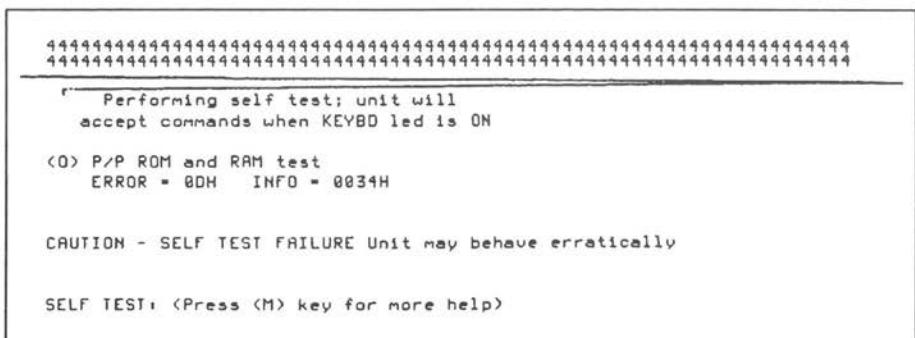

Figure 7-5. Example of Test O Failure at Power-On
- (O) **P/P ROM and RAM Test**—This test checks the internal ROM of the print/plot processor using a CRC test similar to test 1. Both the print/plot internal RAM and external RAM are tested similar to test 2, the quick RAM test. Data is written into the RAM and then read back from the RAM for verification. Any errors would result in a test failure and an appropriate error message will be printed. Failure of this test at power-on will result in a number (1 to 7) being printed instead of the internal character set (see figure 7-5).